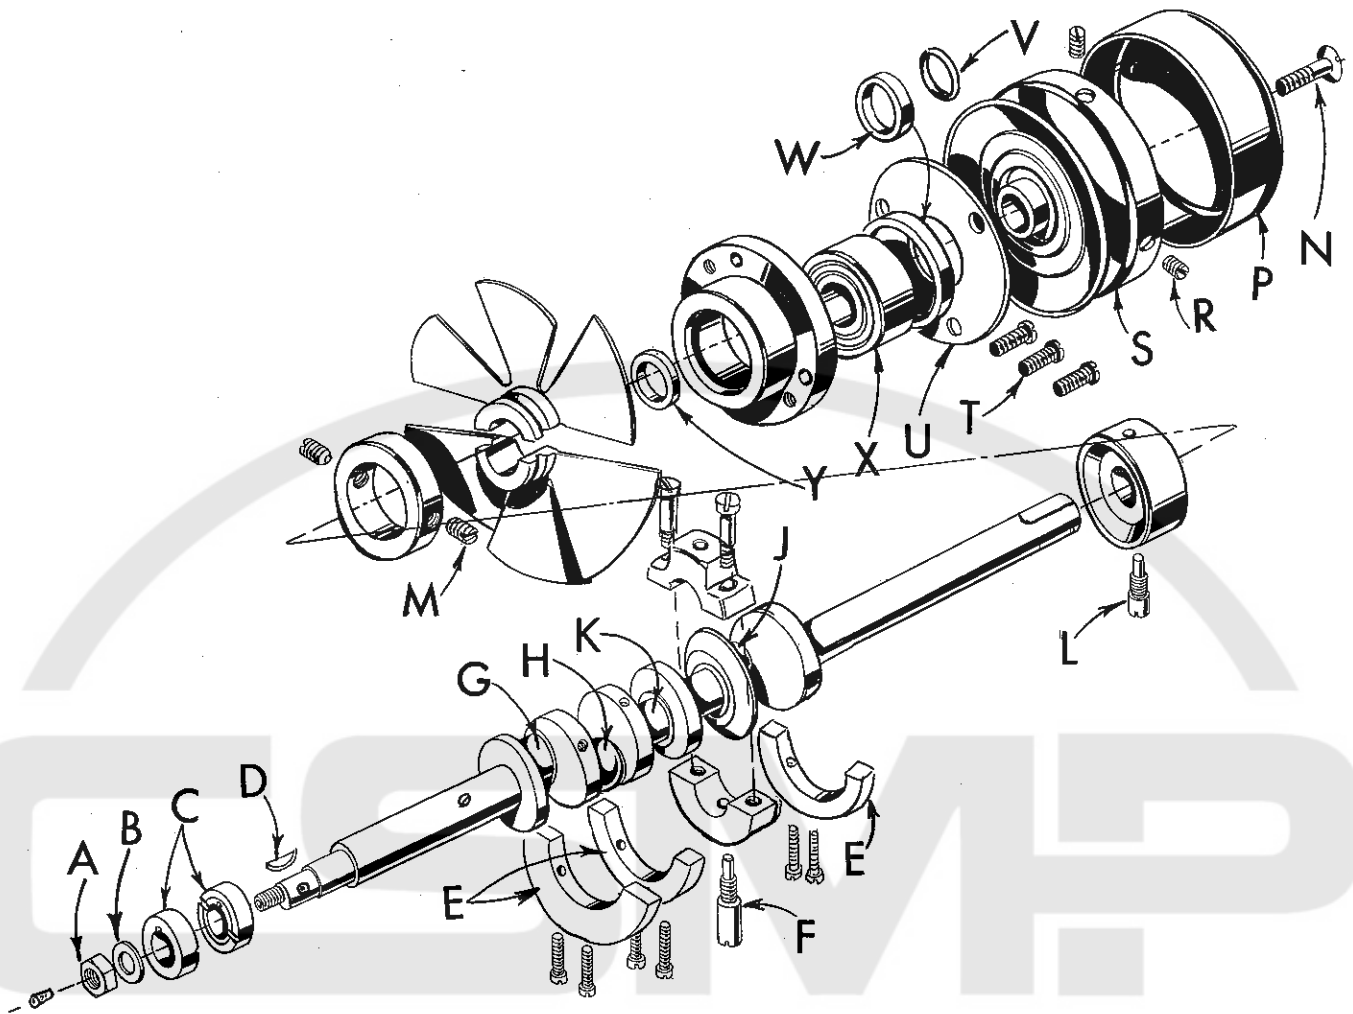
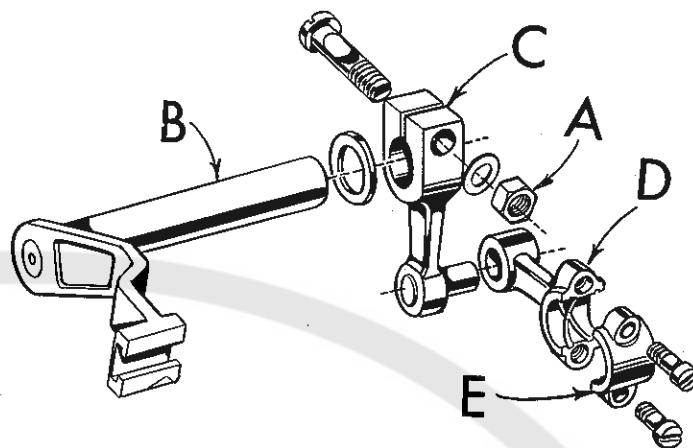

Fig. 15
Fig. 16
3. Remove feed eccentric nut (A, Fig.15) and washer (B), and, with the aid of the eccentric extractor, slip off the eccentrics (C).
4. Remove key (D).
5. Remove three counterweights (E). Identify these counterweights so that they will be re-assembled in the proper places.
6. Remove screw (F) which holds crankshaft split bearing. This screw is reached through bottom of bed casting.
8. Loosen clamp nut (A, Fig. 16) which holds upper knife driving arm (B). Access to clamp nut is through top cover. Draw driving arm to the left until upper knife driving lever (C) and connecting rod (D) drop, allowing removal of bearing cap (E). This is at bearing point (K, Fig. 15) on crankshaft. Observe same precautions when re-assembling cap as described in 7 above.
9. Remove screw (L, Fig. 15) which holds inner right crankshaft bearing. This screw is reached through bottom of bed casting.
10. Loosen two screws (M) in fan collar; remove both halves of cooling fan.
11. Remove screw (N); take off pulley cap (P).
12. Loosen two screws (R); remove pulley (S).
13. Remove three screws (T); take off bearing retaining plate (U); also, spacer collars (V) and (W) may be removed at this time.
15. If necessary to replace ball bearing (X), it should be pressed off shaft on an arborpress. In replacing bearing it must be pressed on carefully until it seats against ground thrust washer (Y).